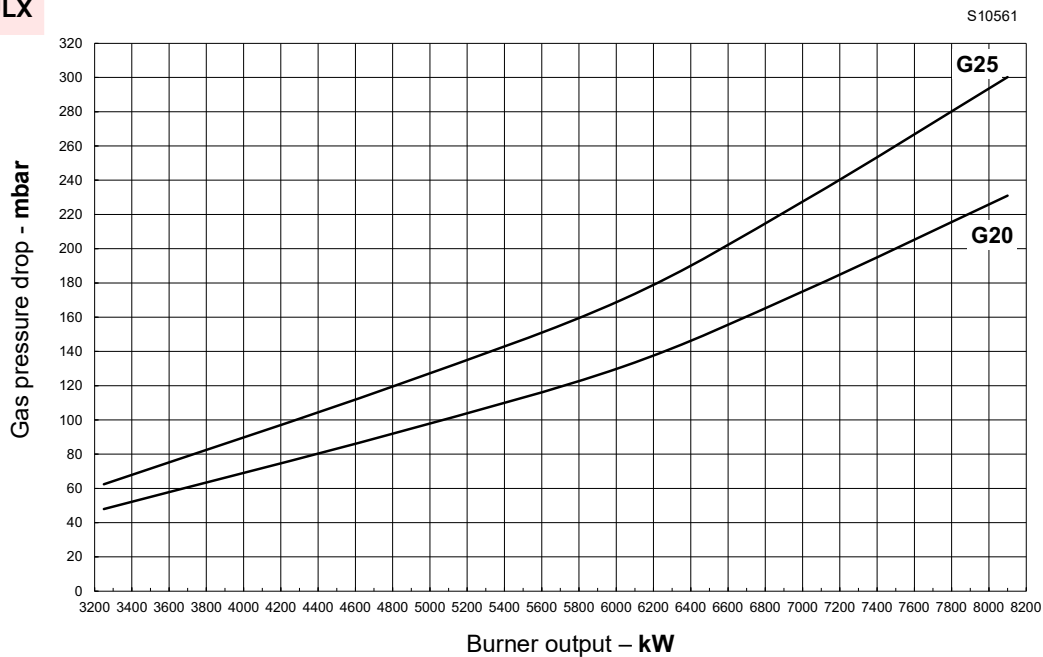

Fig. 26
- Enter the mbar scale (Fig. 25 and Fig. 26) and read the corresponding output by reading on the line.